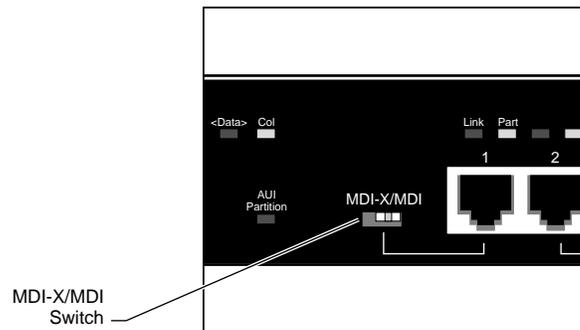

Figure 3-5. MDI-X/MDI Switch Set to MDI-X
- 2. Make sure the MDI-X/MDI Switch on the Model 2800A is set to MDI-X (see Figure 3-5).**